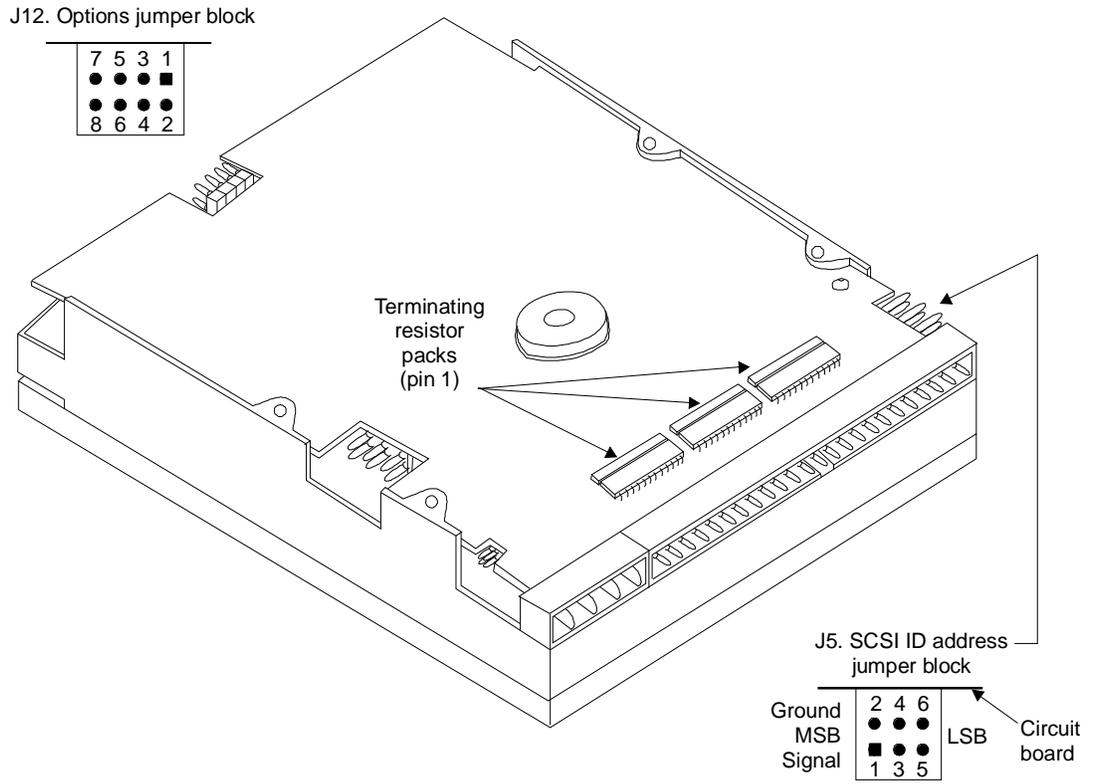

Figure 4-6. Location of Seagate ST3550N Jumper Fields and Bus Terminators.
The Seagate drive is a hard disk drive with approximately 456 megabytes that provides up to 58 hours of voice storage when used on the DEFINITY AUDIX System. It supports the SCSI interface. Figure 4-6, shows the location of the Seagate ST3550N jumper fields and bus terminators.
- Interface terminator packs should not be installed. See Figure 4-6 for the location of these terminator packs. Verify that they are not present. Normally no action is required since all drives should be shipped without these terminator packs.
- Bus Parity - When a jumper is installed on pins 1-2 of this jumper block, the drive will check the SCSI bus parity. The drive will operate in AUDIX with or without this jumper. However, it is recommended that this jumper be installed. (see Figure 4-6).
- These three jumpers are identified in Figure 4-6.
These three jumpers are identified in Figure 4-6.